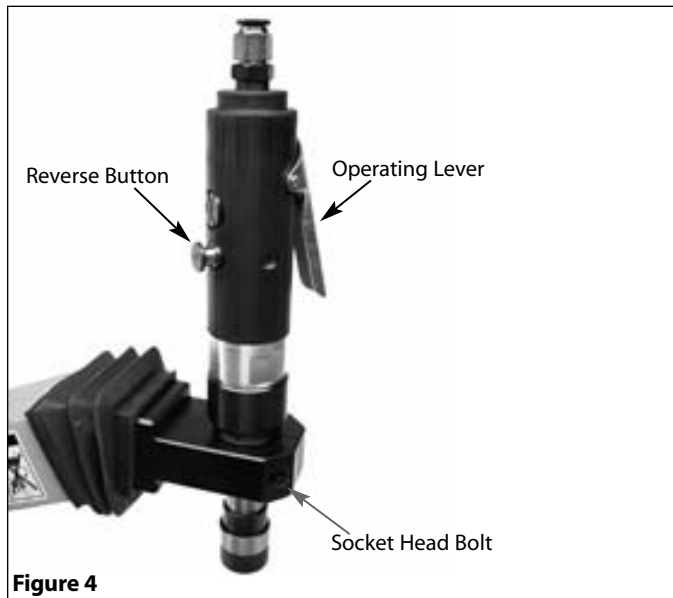

Figure 4
Refer to Figure 4.
Refer to Figures 4, 5 and 13.
- Spindle motor speed can be adjusted by turning the screw above the reverse button (see Figures 4 and 5).